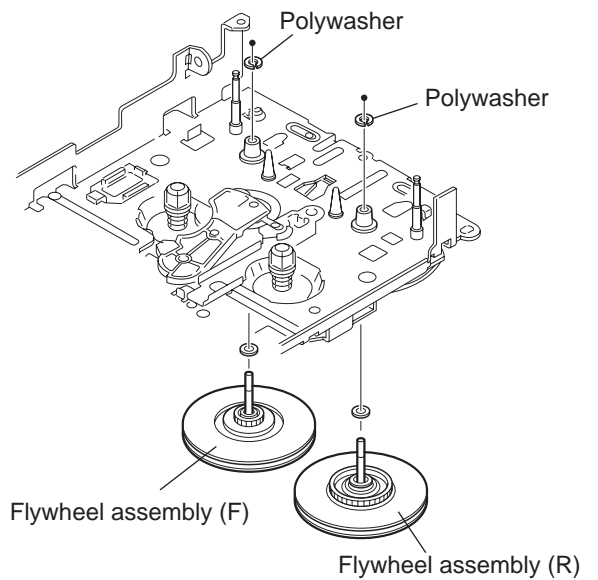

Fig.18
### 3.2.9 Removing the flywheel assembly (F) & (R) (See Fig.18 and 19)